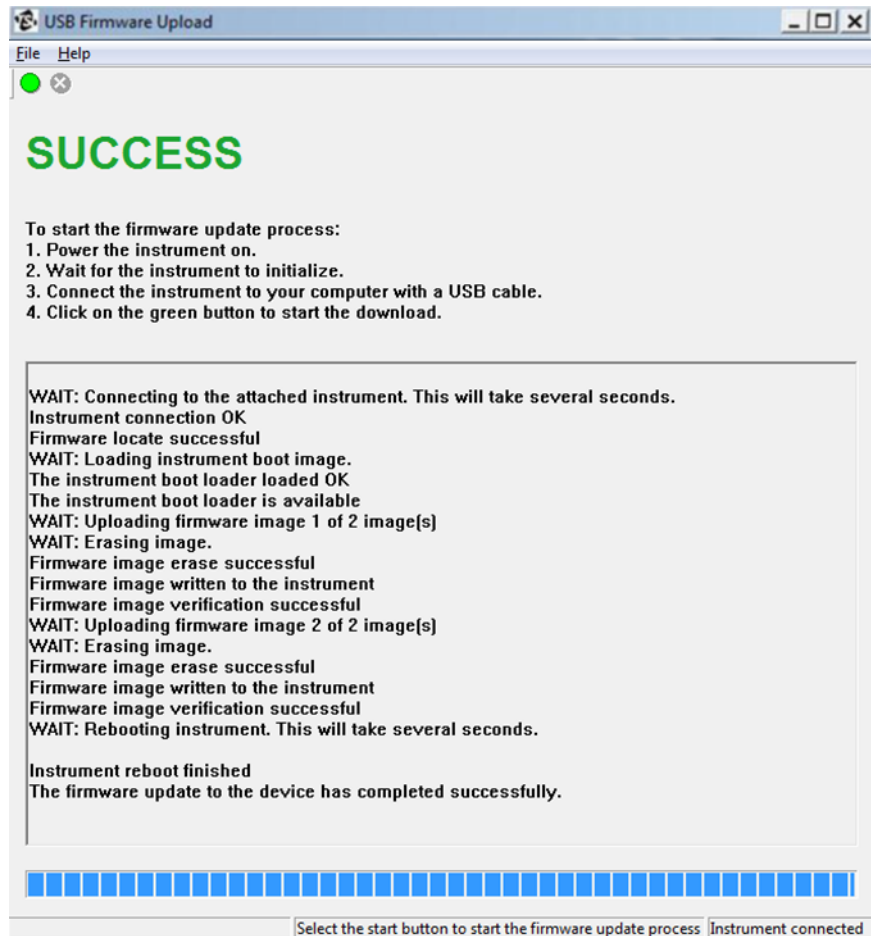

Figure 13
11. When the firmware update process is complete, the **SUCCESS** message displays (Figure 13).